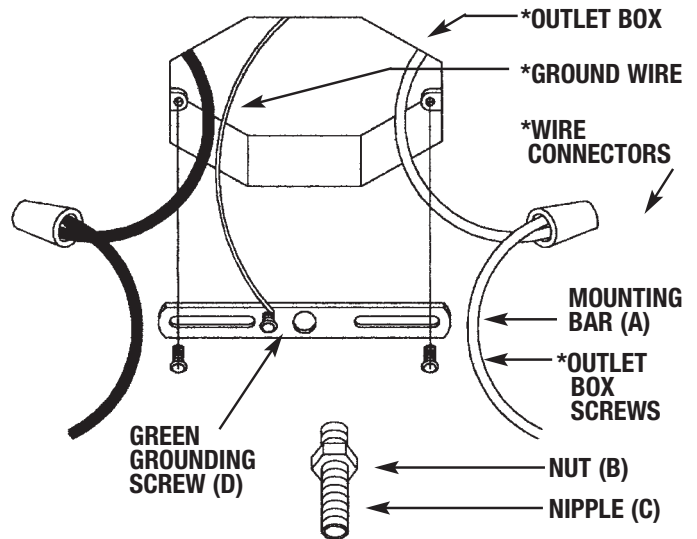

FIGURE 2
GROUNDING INSTRUCTIONS: The green grounding screw (D) is to be inserted into the hole with two raised dimples provided on the mounting bar (A). Wrap the ground wire from the fixture (if supplied) and the ground wire from the outlet box (bare metal or green insulated wire) around the green grounding screw (D) on the mounting bar (A). If uninsulated ground wire is on the mounting bar, connect the ground wire from the fixture (if supplied) and the outlet box to it using a small wire connector (not supplied) (See Figure 2). **NEVER CONNECT GROUND WIRE TO BLACK OR WHITE POWER SUPPLY WIRES.**